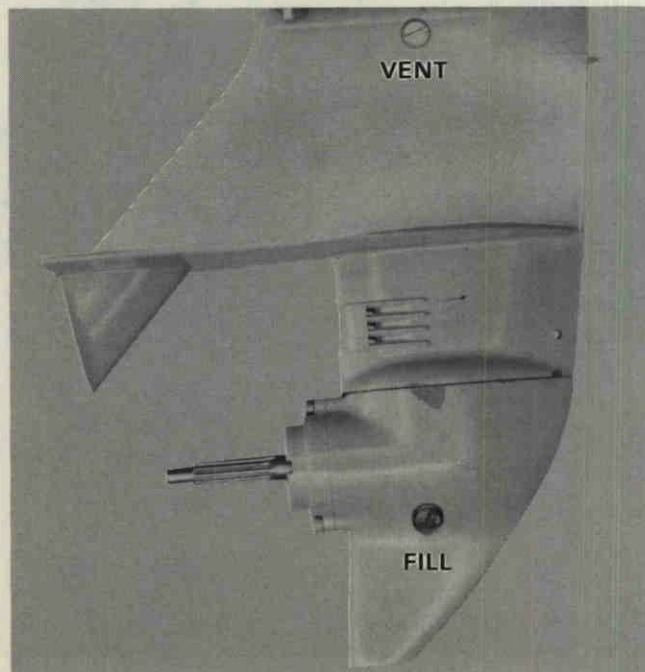

Figure 2. Location of Vent and Fill Plugs.
A. Loosen, DO NOT REMOVE, gear housing, fill plug. Figure 2.
2. Remove vent plug. Lubricant level should be even with bottom of vent hole. Figure 2.
1. Remove fill plug and washer and insert nozzle of tube into fill hole. Figure 2.